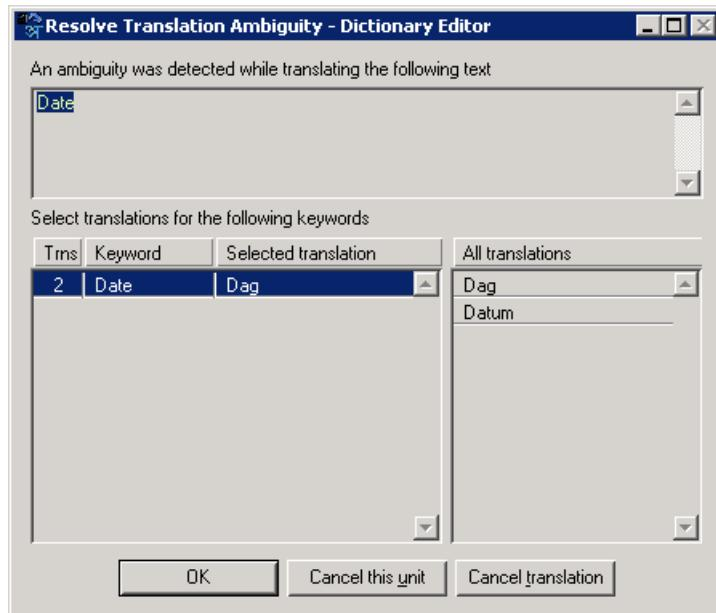

Figure 45: The Resolve Translation Ambiguity dialog
2. If there are two different translations available in the same language, the dialog shown in Figure 45 appears. In the dialog, select the correct translation for the text from the **All translations list** and click **OK**. To cancel the translation of a single word and proceed with the operation, click **Cancel this unit**. **Cancel translation** cancels the Use Keywords operation.